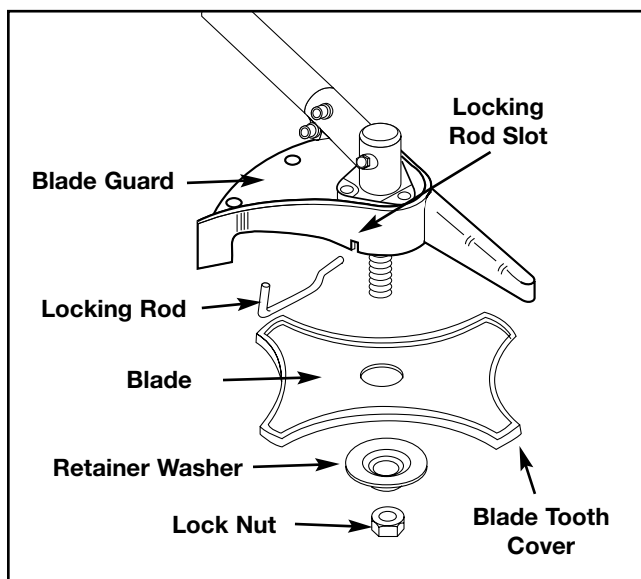
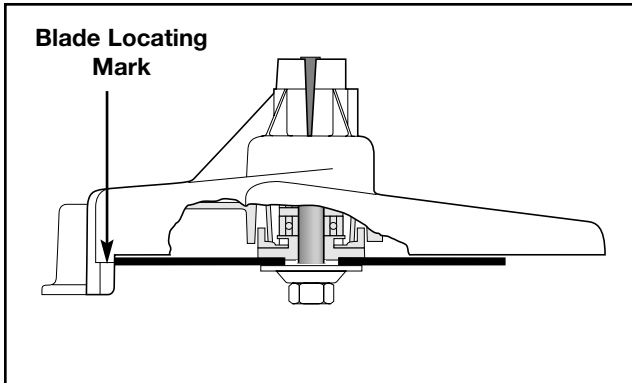

Fig. 7
Fig. 10
3. Make sure that you have all of the parts necessary to install the brush blade (Fig. 7). Do not remove the blade tooth cover off of the blade. Always wear gloves while handling or installing the blade.
4. Install the blade, washer, and lock nut. Insert the locking rod into the locking rod slot (Fig. 7). Make sure that the blade stays flat against the washer while tightening the lock nut **counterclockwise** until it is finger-tight.
5. **If you have a torque wrench**, tighten the lock nut to **225-250 in•lb (25.3-28.1 N•m)**, while holding the locking rod in the locking rod slot (Fig. 7).
- When assembling the brush blade, the blade edge should line up with the blade locating mark on the casting (Fig. 10). The brush blade should be within a blade thickness of the mark. If the blade isn't lined up correctly, refer to Fig. 7 for reassembly.
- Install the blade guard over the brush blade. Insert the locking rod into the locking rod slot. Loosen the lock nut by turning it **clockwise** (Fig. 7).